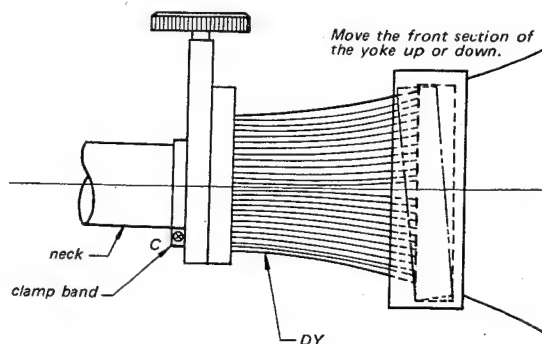

Fig. 3-15.
2. Loosen the clamp band labeled C in Fig. 3-15.